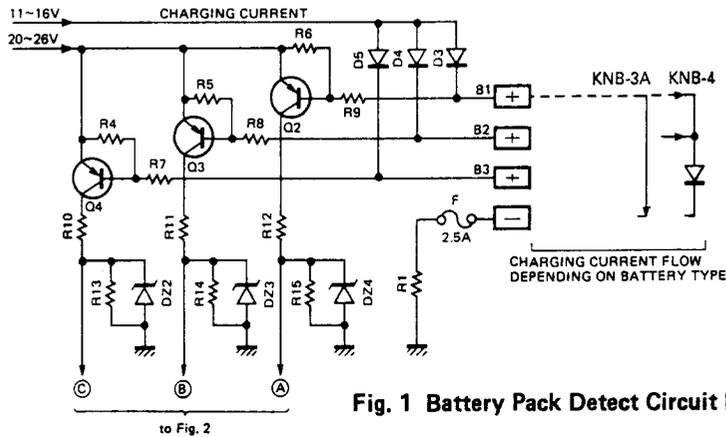

Fig. 1 Battery Pack Detect Circuit Block Diagram
When a KNB-3A or KNB-4 is inserted in the charger, a small amount of current flows from Q2 : 2SA608E through R9 to the charging terminal B1 and Q2 turns on. As a result, an output of approximately 11V appears at (A) in Figure 1. Similarly when a KNB-4 is inserted Q3 : 2SA608E turns on and approximately 11V is provided at output (B). When a KNB-3A or KNB-4 is charged, Q4 is off and 0V is provided output (C).